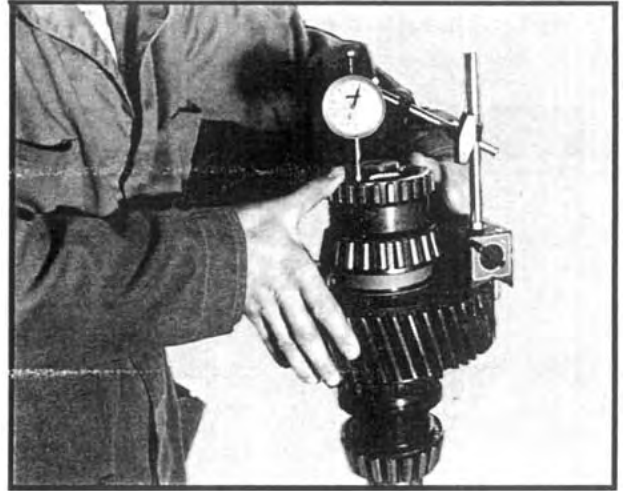

Fig 44
- Install a dial indicator as depicted in Figure 44. Lift upward on the gear assembly and note the gear end float on the dial indicator. If the end float is not within specification (.003 to .008 in.) it will be necessary to disassemble the shaft by performing Steps 7 and 8 under "REAR OUTPUT SHAFT DISASSEMBLY – MODELS WITH NEUTRAL". Measure the thickness of the original spacer ring and select a new ring to provide end float within specification. See item 11 on P.12 in the parts manual for a list of available spacer rings. Be sure to recheck the gear end float after a new spacer ring is installed.